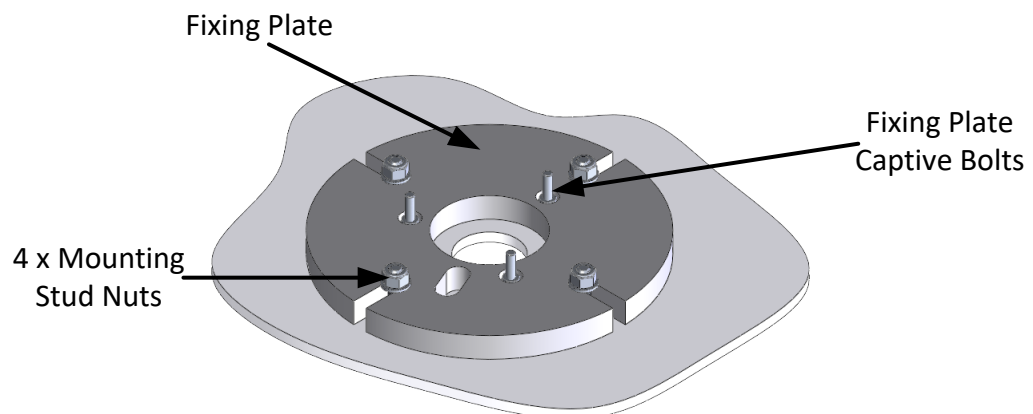

Figure 35: Fixing Plate mounted on the mixer (Captive Bolts installed)
- Mount the Fixing Plate using the Mounting Studs on the mixer cover ensuring that the three Fixing Plate Captive Bolts are installed and the nuts are tightened to hold them in place (Figure 35).